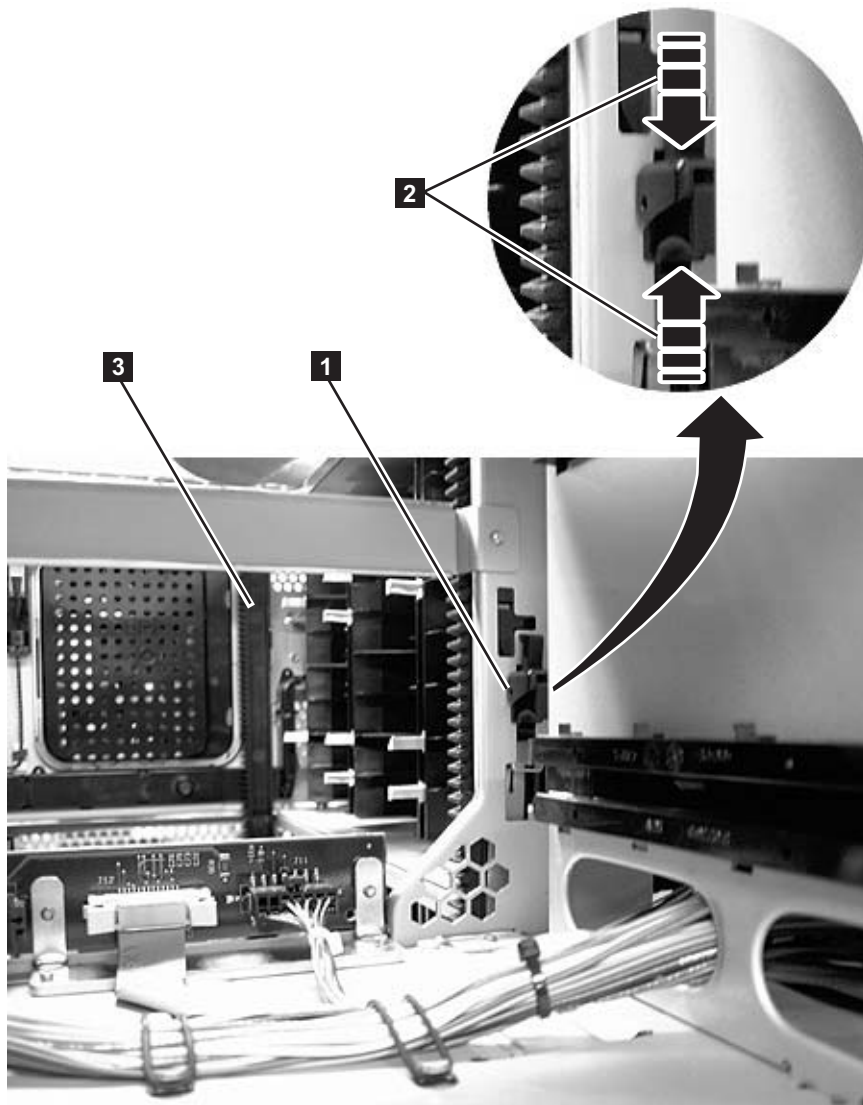

Figure 8-68. Removing a gear rack
4. Slightly push up and pinch the gear rack locking mechanism (**1** in Figure 8-68) to unlock the gear rack. The gear rack is spring-loaded against the tab and will be removed through the bottom of the module.
5. While pinching the gear rack locking mechanism (**2** in Figure 8-68), push the gear rack down then release your hold on the locking mechanism.